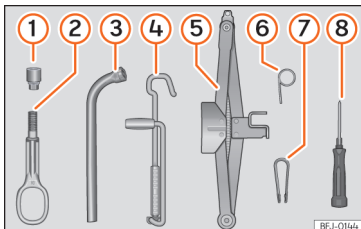

Fig. 72 Underneath the floor panel of the luggage compartment: on-board tools.
- Fit the plastic clip (vehicle tools »» » Fig. 72 ⑦) over the cap until it clicks into place »» » Fig. 73.
- Using the hexagonal socket in the wheel brace »» Fig. 72, unscrew the slackened